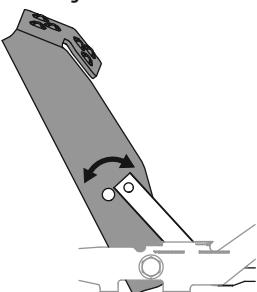

Figure 38
- Position the pedal to the optimal position based on operator preference. See Figure 38.